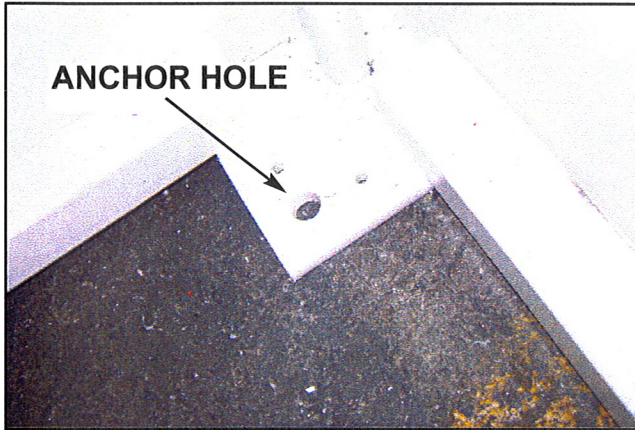

Figure 6
### Anchoring & Bracing - See Figures 6, 7, and page 5
1. Anchor four corners inside of lift. You may want to do this after carriage is raised to upper location. See Figure 6.